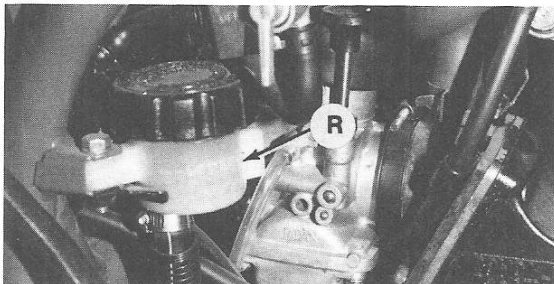
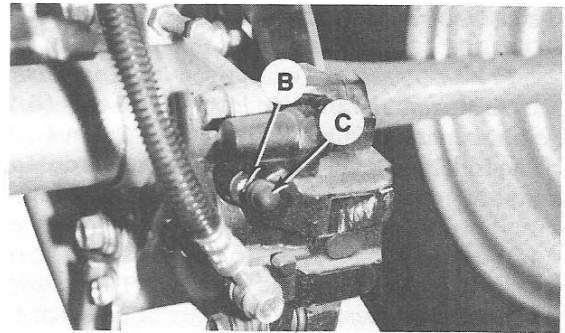

Fig. Y10-30—View identifies rear brake master cylinder reservoir (R).
Fig. Y10-31—Rear brake caliper bleed valve (B) is accessible after removing protective cap (C).
BLEEDING. Make sure reservoir (R—Fig. Y10-30) is full. Connect a bleed hose to bleed valve (B—Fig. Y10-31) on brake caliper assembly. Route the bleed hose into a suitable container. Operate foot pedal until a hardness (fluid resistance) is felt, then open bleed valve (B). Close bleed valve prior to releasing foot pedal. Continue bleeding procedure until no air bubbles are noted in discharged fluid from bleed valve.
NOTE: Make sure reservoir (R—Fig. Y10-30) is kept full during bleeding procedure.